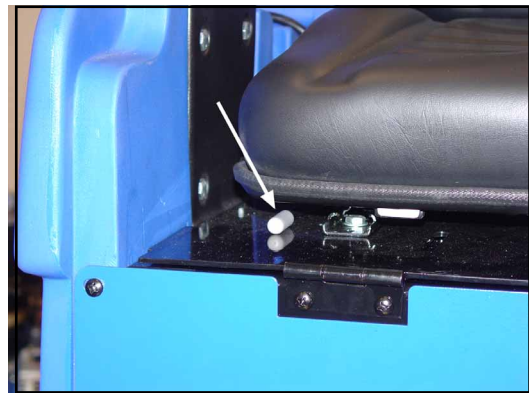

Figure 19
1. The seat can be adjusted to the forward/backward position by using the lever on the lower right side of the seat. Moving the lever will allow the seat to slide into the preferred position. See figure 19.